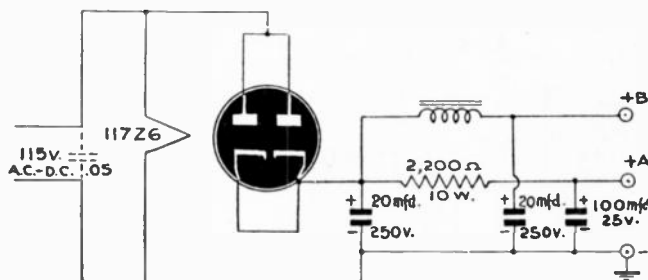

Fig. 504
A. The schematic is given in Fig. 504. By using a suitable line-cord or other resistor, it can readily be adapted to almost any type of a.c.-d.c. rectifier tube. The radio with which it is used must be a type with all filaments connected in series and drawing 0.05 amp per tube.